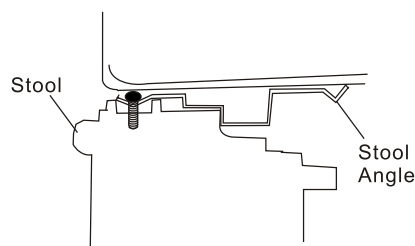

Fig.12
2. Place cabinet in window with bottom stool angle firmly seated over window stool as shown. Bring window down temporarily behind top angle to hold cabinet in place(Fig.12).